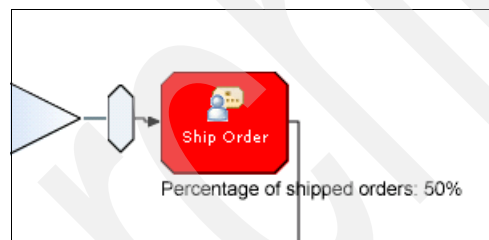

Figure 5-68 Testing the KPI visual model
8. Test the settings by using the diagram test facility (Figure 5-68).